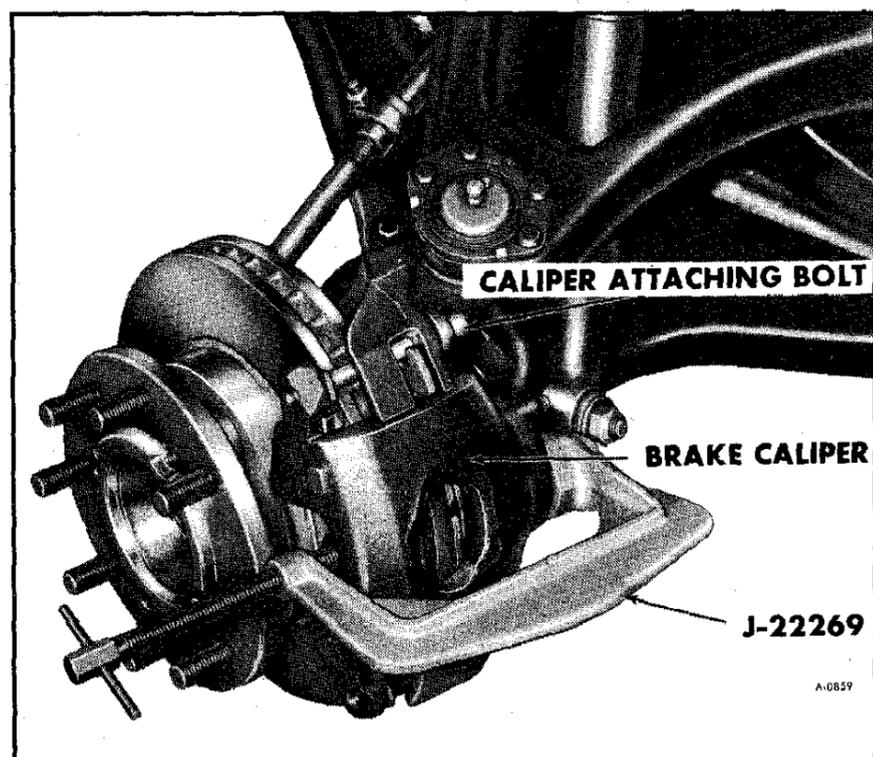

Figure 3—Caliper Removal
4. Position Tool J-22269 on caliper as shown in figure 3.
6. Remove the two caliper-to-knuckle attaching bolts (figure 3).